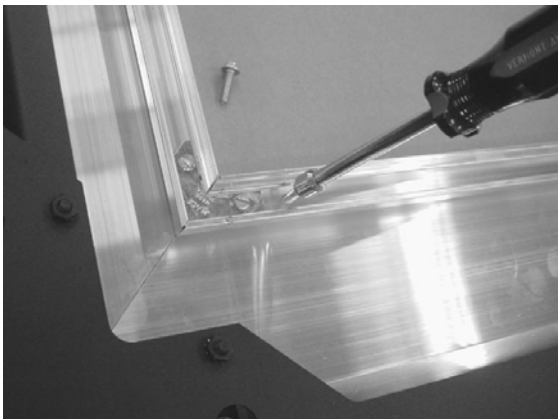
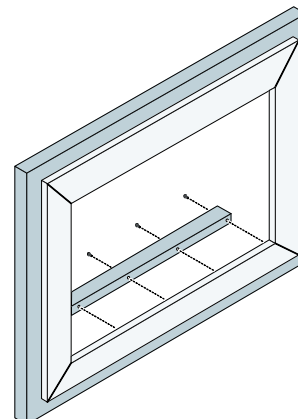

Figure 10
Figure 11
- 2 The bottom shield must be mounted to the face prior to installation. Pre-thread the five holes on the back side of the face (use one or more of the 8-32 x 5/8" Swaged Screws - see Figure 10). Attach the bottom shield to the face with the five 8-32 screws (see Figure 11).